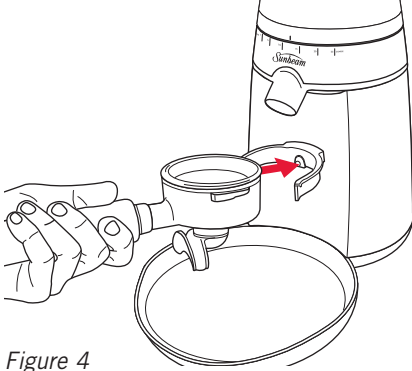

Figure 4
8. To grind coffee, press the group handle against the button located in the centre of the group handle locator, see figure 4.